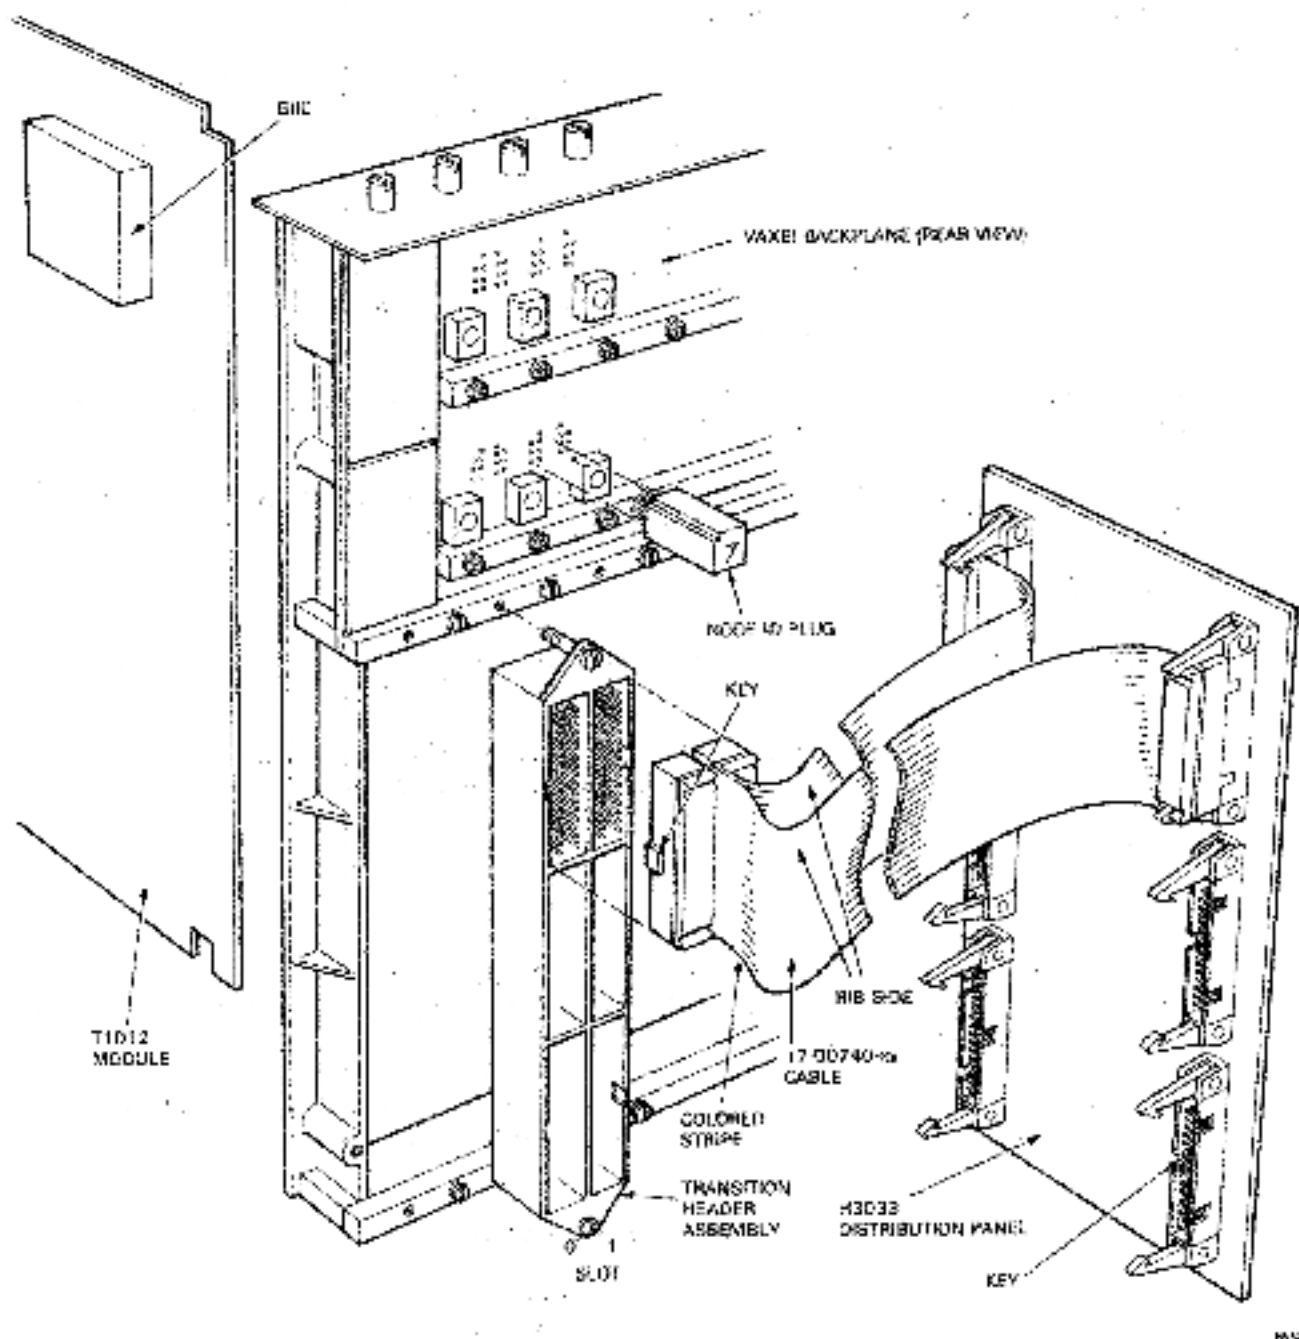

Figure 2-1 DMB32 Installation
Figure 2-1 shows how the parts of the DMB32 option fit together. This figure should be used together with the installation instructions given in this section.
1. Connect the six ribbon cables (17-00740-xx) into the transition header assembly. Make sure that the ribbed side of the cables faces towards slot 1 (see Figure 2-1).